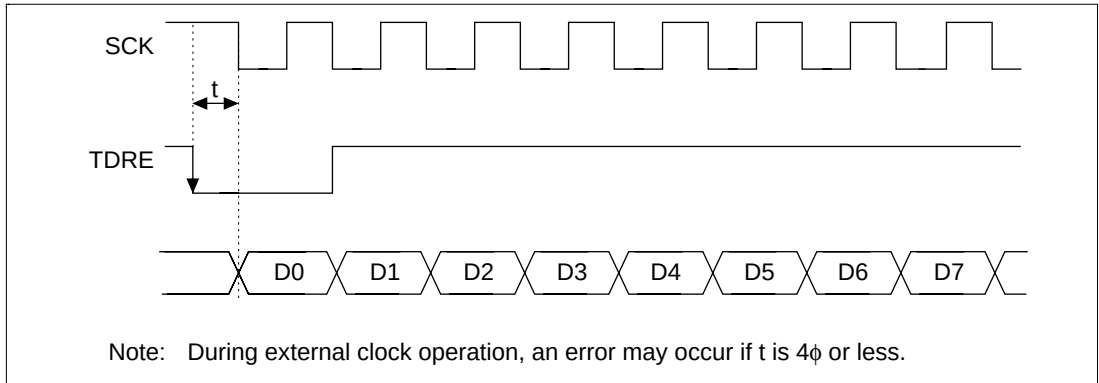

**Figure 14.25 Example of Clock Synchronous Transmission with DMAC**
- When using an external clock source for the synchronization clock, update the TDR with the DMAC or the DTC, and then after five system clocks or more elapse, input a transmit clock. If a transmit clock is input in the first four system clocks after the TDR is written, an error may occur (figure 14.25).